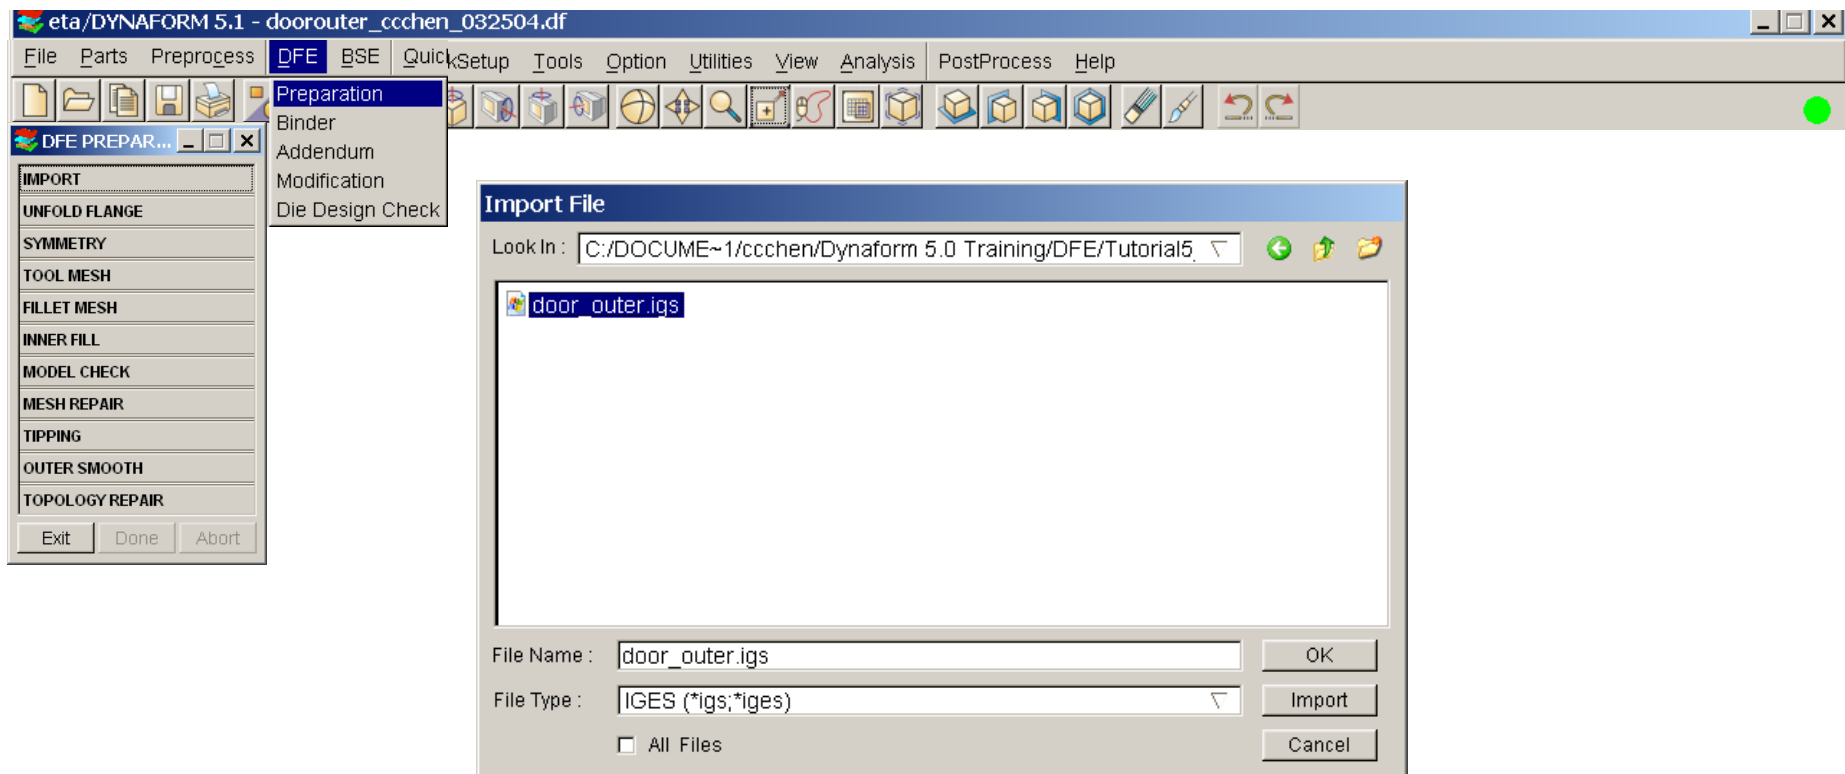

Figure 5.2
- a) Click on *DFE* (See Figure 5.2)